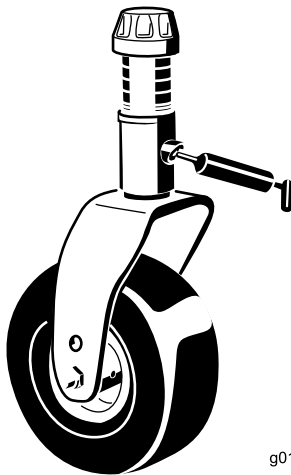

Figure 42
- 2 caster-fork-shaft bushings (Figure 42)